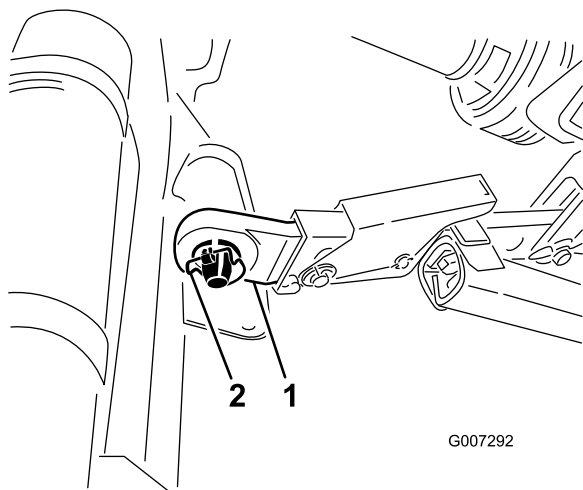

Figure 4
5. Insert right and left lower link arms onto hitch pins (Figure 4).
6. Secure lower link arms to hitch pins with lynch pins (Figure 4).